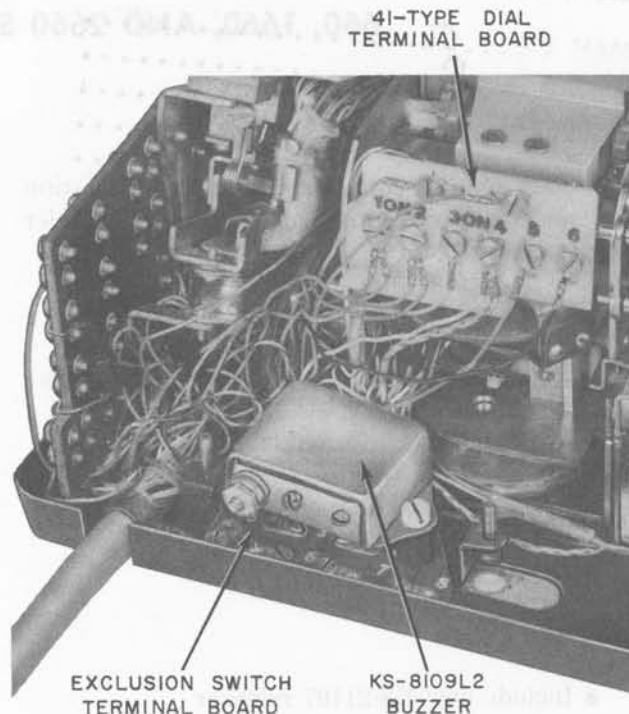

Fig. 2—Location of Buzzer and Terminal Boards in 660- and 662-Type Telephone Sets
(3) Mount switch assembly to line switch mounting bracket (TOUCH-TONE sets) or dial adapter (rotary dial sets). Be sure wire link enters hole provided in arm of line switch. Secure assembly with screws provided.
(4) Dress wiring from exclusion switch so that terminal board is located at rear of set (Fig. 2 and 3).
(5) Fasten terminal board to base with screws and washers furnished with set. Place one washer between terminal board and base.
**Note:** If buzzer is provided on 660- and 662-type telephone sets make connections to the exclusion switch terminal board before fastening to base. Mount buzzer above terminal board with insulating spacers between buzzer and terminal board to prevent electrical interference (Fig. 2).